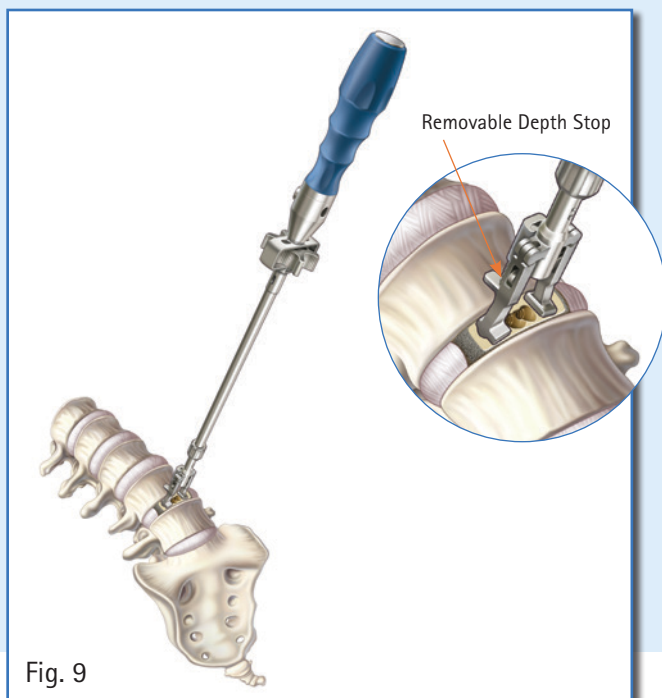

Fig. 9
- Reference the midline and gently advance the implant into the disc space (Fig. 9).